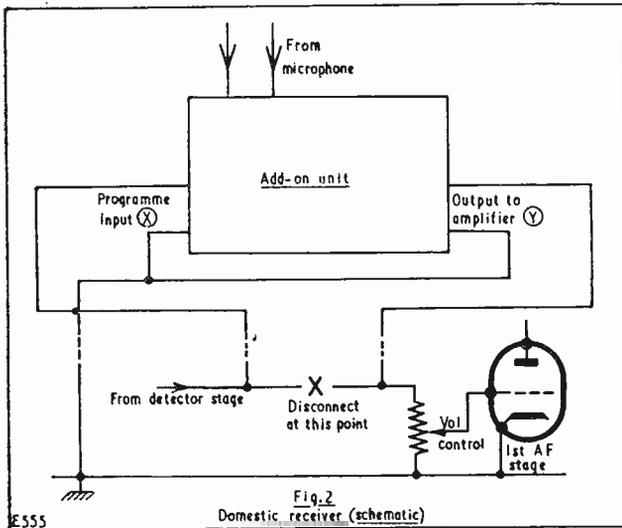

Fig. 2 Domestic receiver (schematic)
To use the unit with a domestic receiver it is necessary to provide connections for the programme input and unit output leads (X and Y of Fig. 1). This can be conveniently arranged by disconnecting the top end of the receiver volume control and then connecting in the unit as detailed in Fig. 2. A connection will also have to be made between the unit chassis and the receiver chassis.
Figure 2 (a) depicts an output valve with its associated connections to h.t. positive from the anode and to h.t. negative from the cathode. Figure 2 (b) shows the protection applied, and it will be seen that excess cathode current causes the bulb to burn out, resulting in bias voltage immediately increasing and the cathode current dropping accordingly. (The bulb may be used as a pilot light which will glow when the apparatus warms up.) Bulbs 6V, 40mA are primarily intended for use as bicycle rear-lights, and one would expect a considerable difference in characteristics between individual bulbs; however, it has been found that the Osram bulbs 6V, 40mA are close to specification.
(2) Fig. 2 (b). The bias network is connected between valve and chassis. It is essential that it is *not* joined to the line A-B on Fig. 1 (b), as a short in an h.t. electrolytic condenser places this line at h.t. potential and the heater/cathode insulation of the average valve certainly will not withstand such a high voltage.
(3) Fig. 2 (b). The bias electrolytic condenser is not shown. The effect of its omission is to slightly reduce output by applying a small measure of negative feedback. It could be placed in parallel with R_3 to minimise this effect, but it hardly seems worthwhile. It is not recommended that it is employed in the usual position, as an electrolytic condenser which has been used for a long time at a particular voltage does